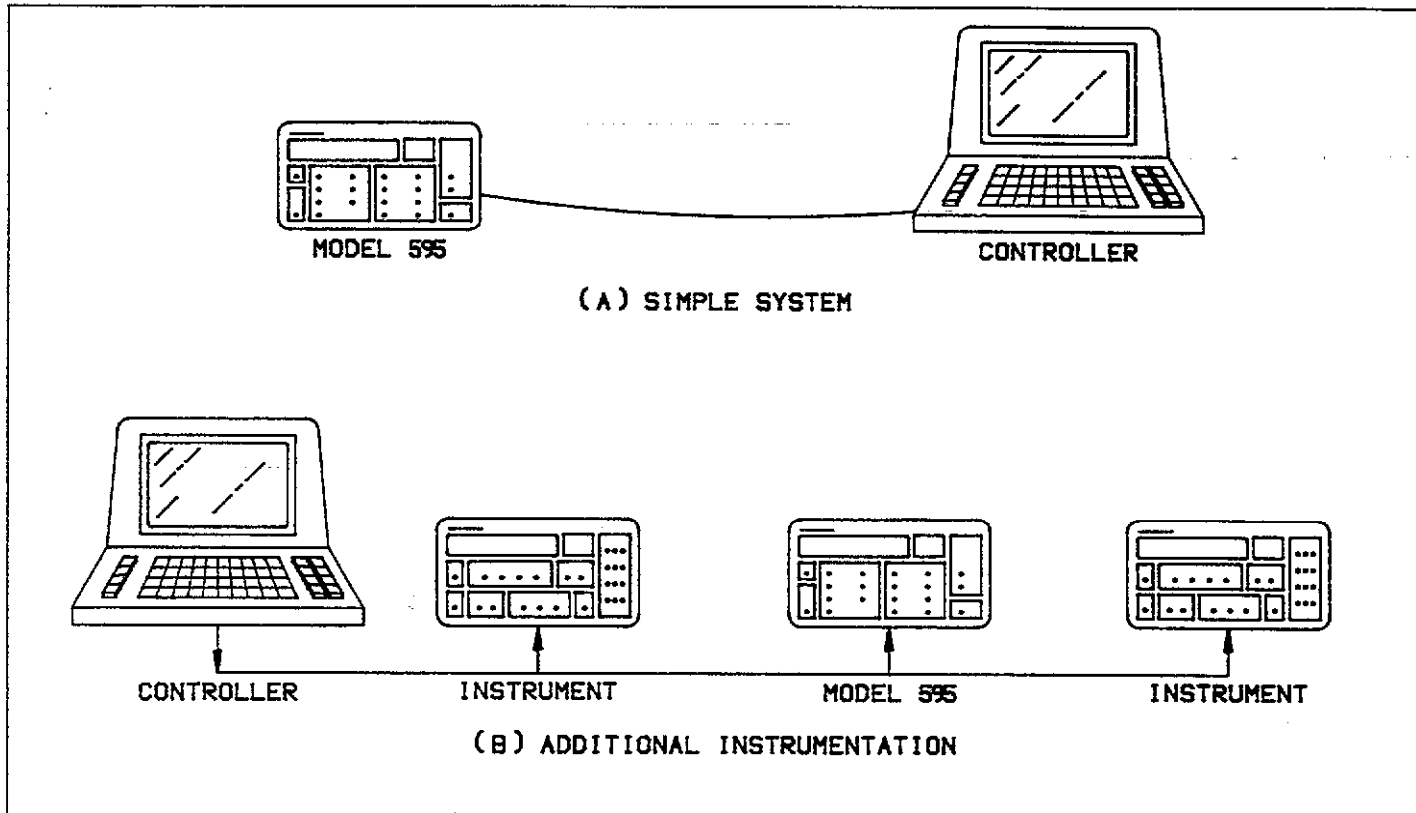

Figure 4-1. System Types
Figure 4-1 shows two possible system configurations. Figure 4-1(A) shows the simplest possible controlled system. The controller is used to send commands to the instrument, which sends data back to the controller.
The system in Figure 4-1(B) is somewhat more complex since additional instruments are used. Depending on programming, all data may be routed through the controller or sent directly from one instrument to another.